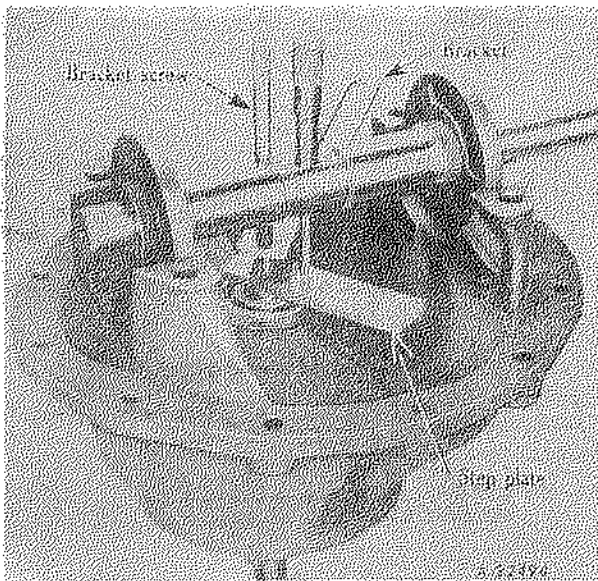

Fig. 5
The SE-1065 pinion setting gauge is a precision gauge designed for use in adjusting differentials to the proper cone setting of the ring gear and pinion. It is used only in adjustment of matched sets of gears. A step plate and bracket have been added to the set so that the gauge may be used on all hypoid differentials with satisfactory results. NOTE: Be sure to allow for thickness of the step plate .400" when making calculations (Fig. 5).
Fig. 5 shows SE-1065 tool equipment in position on a hypoid differential case. Make certain that the bearing bores are clean and free of nicks or burrs. The step plate must be placed on the pinion end so that the lugs in the step plate straddle the bearing staking indentations on the smaller axle.
2. Install step plate and bracket as shown in Fig. 5. CAUTION: Be sure lugs on step plate straddle the bearing staking indentations.
7. Comparison of corrected cone centre (6) with measurement (4) indicates amount of change necessary for pinion position.